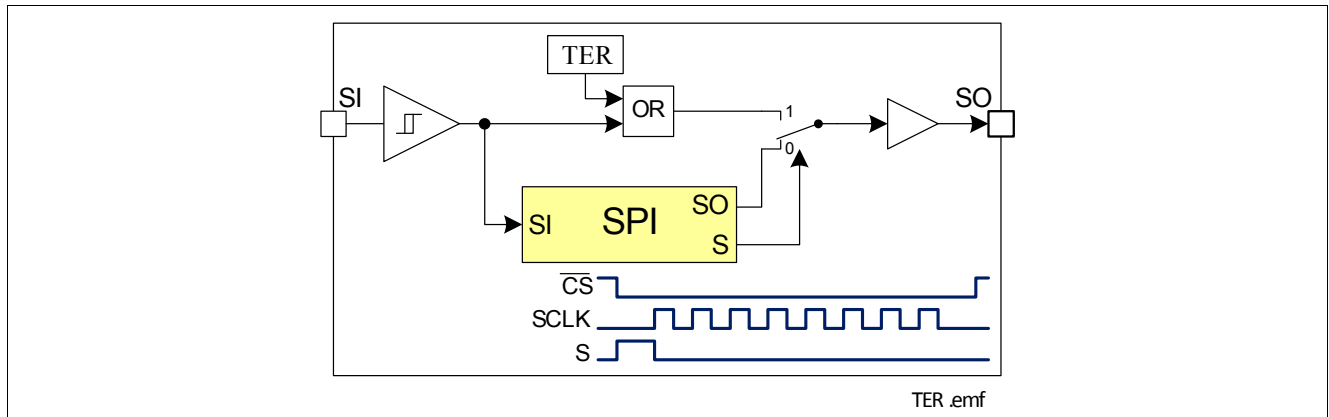

Figure 11 Transmission Error Flag on SO Line
- SO changes from high impedance state to high or low state depending on the logic OR combination between the transmission error flag ( $\text{TER}$ ) and the signal level at pin SI. As a result, even in daisy chain configuration, a high signal indicates a faulty transmission. The transmission error flag is set after any kind of reset, so a reset between two SPI commands is indicated. For details, please refer to Figure 11. This information stays available to the first rising edge of SCLK.